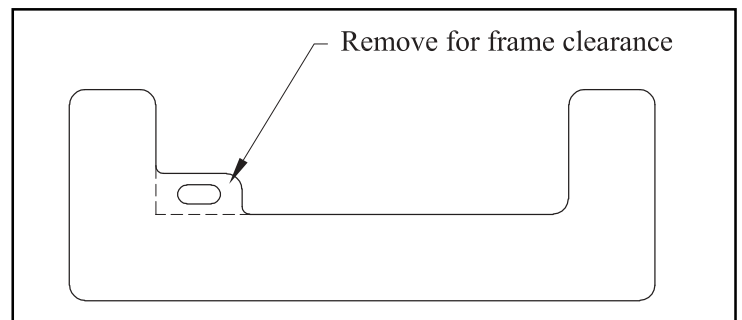

FIG. 15—Front Bumper Modification
- The front bumper must be modified for frame clearance. Remove the tab (on each side) protruding from the stock bumper brackets (Fig. 15).